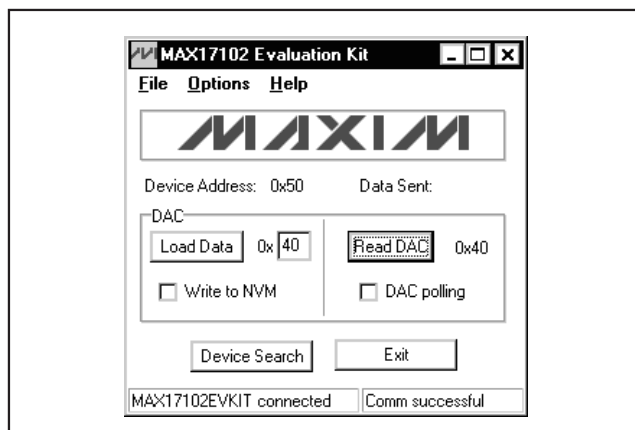
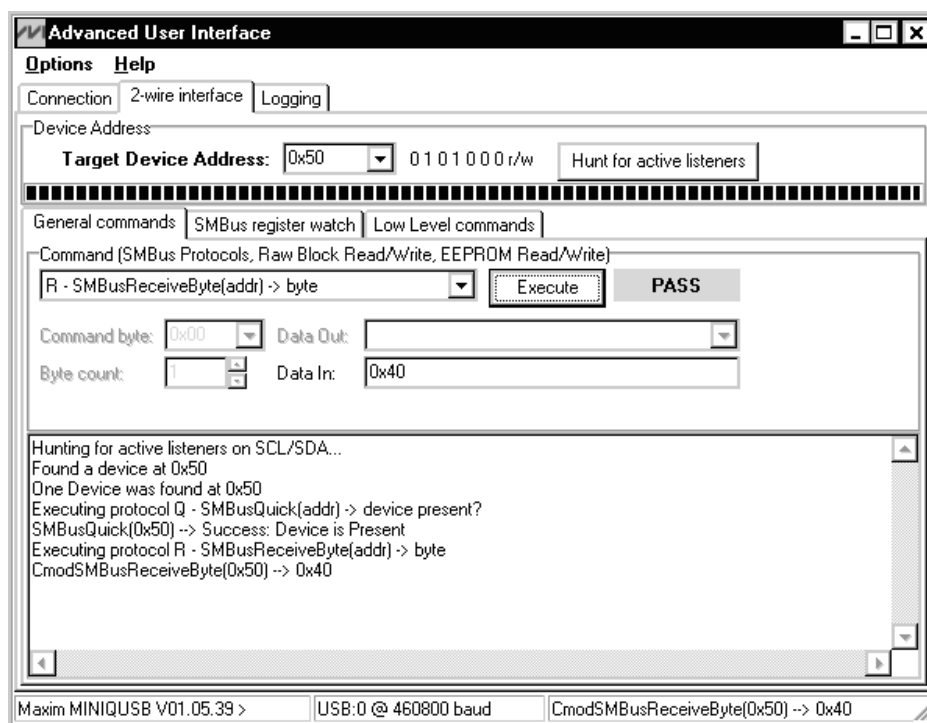

Figure 1. MAX17102 EV Kit Software Main Window
Figure 2. Advanced User Interface Window
- 5) Start the EV kit software by opening its icon in the **Start | Programs** menu. The EV kit software main window appears, as shown in Figure 1.
main window (Figure 1) or through the **Advanced User Interface** window available by selecting the **Options | Interface (Advanced Users)** menu item from the menu bar. The **Advanced User Interface** window (Figure 2) includes a **2-wire interface** tab that allows for execution of the `SMBusWriteByte()`, `SMBusReceiveByte()`, and `SMBusQuick()` commands. See Table 1 for SMBus command details.
The **Command byte** combo box accepts numeric data in binary, decimal, or hexadecimal. Hexadecimal numbers should be prefixed by \$ or 0x. Binary numbers must be exactly eight digits. See Figure 2 for an illustration of this tool.